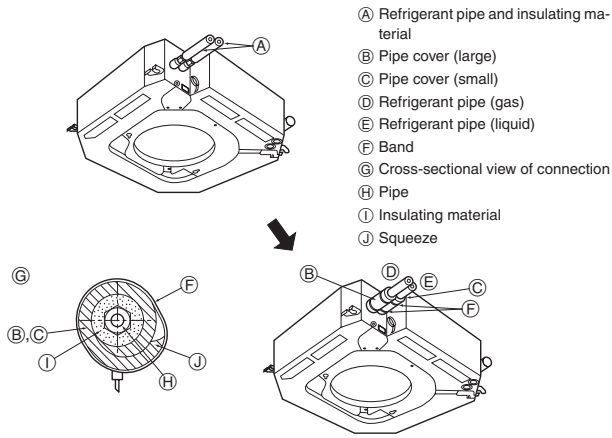

Fig. 4-2
4.3. Insulating pipes (Fig. 4-2)